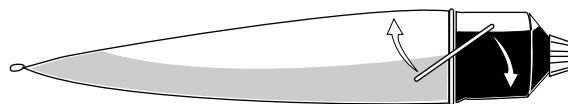

Figure 13
6.5 Hold the epoxy tube horizontally. Holding the tube's internal barrier between your forefinger and thumb, “flip” the barrier to allow the tube's two components to mix (Figure 13). The mixed contents will cause the tube to become hot to the touch — this is normal.